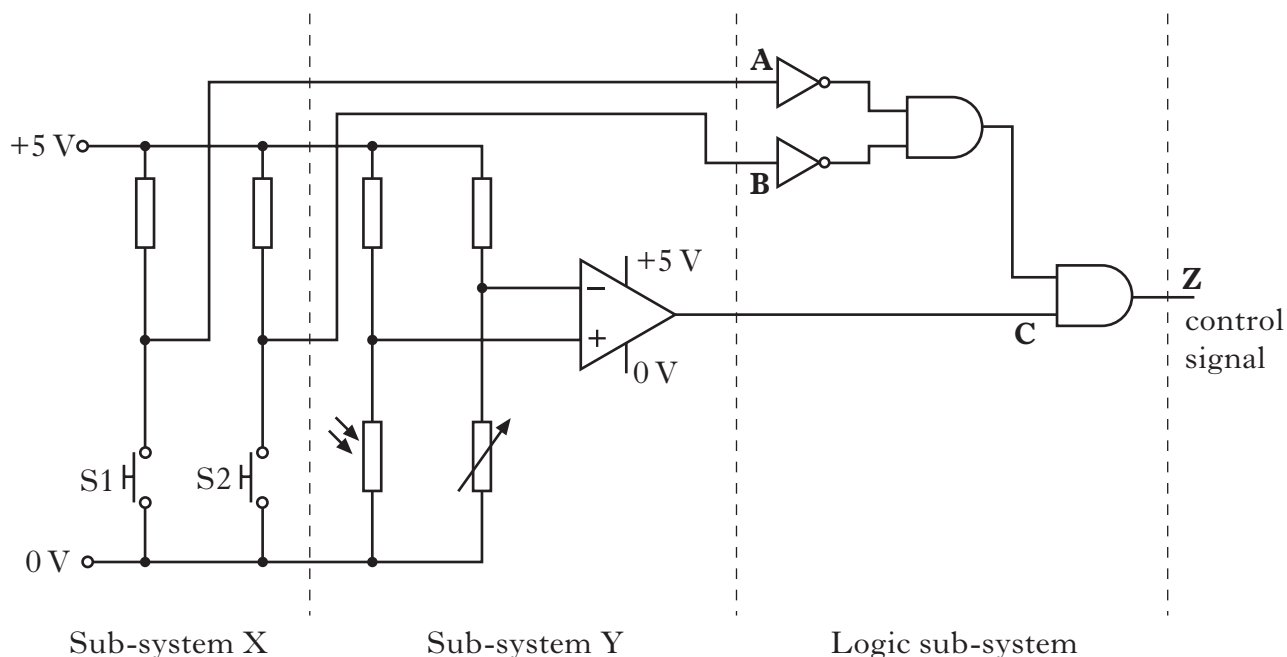

Figure Q12(a)
12. An industrial guillotine is fitted with two push-switches and a light-sensing circuit to sense if material is in position ready for cutting. The guillotine control circuit is shown in Figure Q12(a).
- (a) Describe the operation of the electronic control circuit shown in Figure Q12(a). Refer to each of the three sub-systems shown. 4